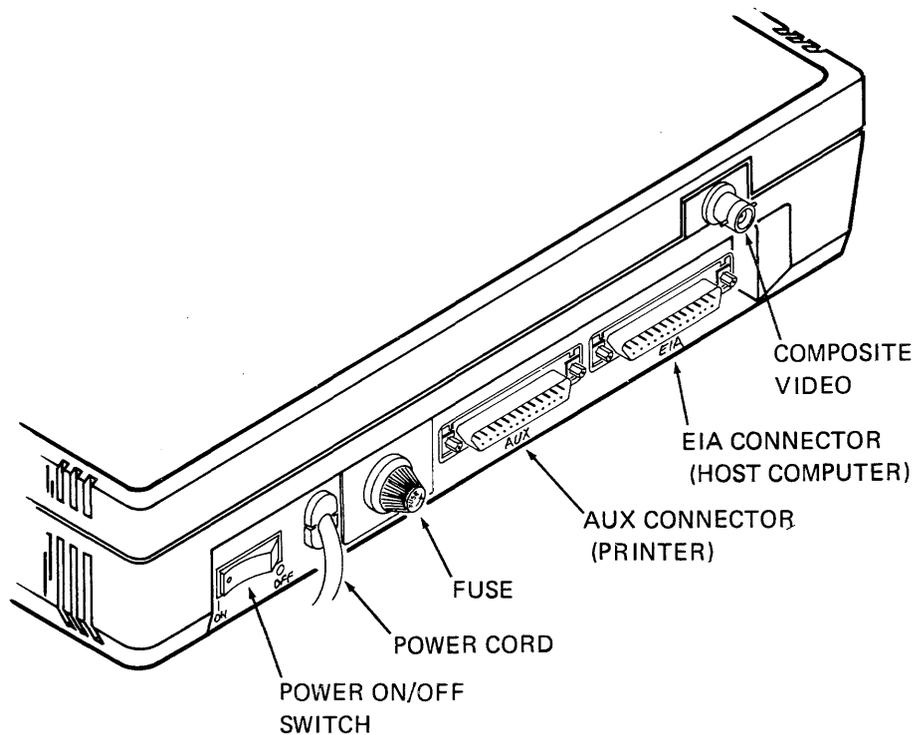

Figure 1-2. The Rear Panel of the Display Unit
At the rear of the display unit: Refer to Figure 1-2.
**Power ON/OFF**     The Power ON/OFF switch is a rocker type switch located on the rear panel (refer to Figure 1-2).
- Move the Power ON/OFF switch to the ON position (refer to Figure 1-2).